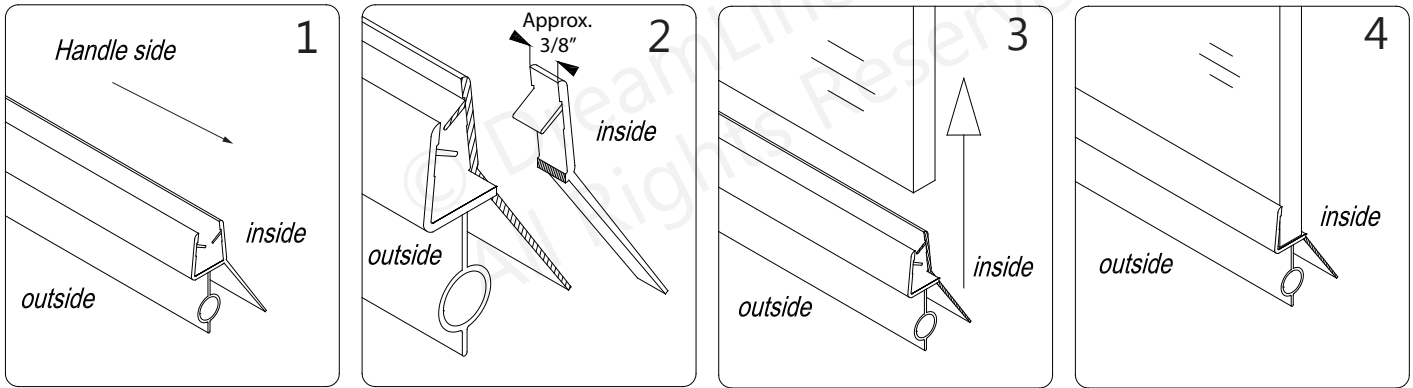

Fig 13
13. Measure the width at the bottom of the **Door Glass (#02)** to determine the actual glass width. Using a razor knife, cut the **Sweep Vinyl (#14)** to the size of your measurement and notch approximately 3/8" off of the inner side of the **Sweep Vinyl (#14)** as shown in **Fig. 13.2**. Press the **Sweep Vinyl (#14)** tightly onto the bottom edge of the **Door Glass (#02)**. (**Fig 13**)